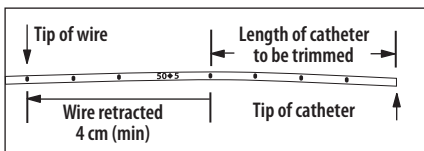

Figure 2
- Withdraw placement wire through septum to retract wire a minimum of 4 cm behind catheter cut location (refer to Figure 2).